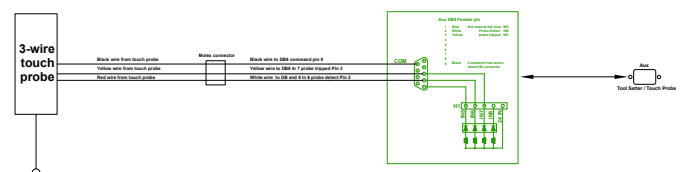

FIGURE 31—The complete schematic file is acorn_mill_connection_back_panelconfig_touch_probe.pdf.
- You connect the three wires from the touch sensor to the 9400 controller box using the DB9 connector that goes into the Aux Tool Setter / Touch Probe DB9 (see Figure 31).